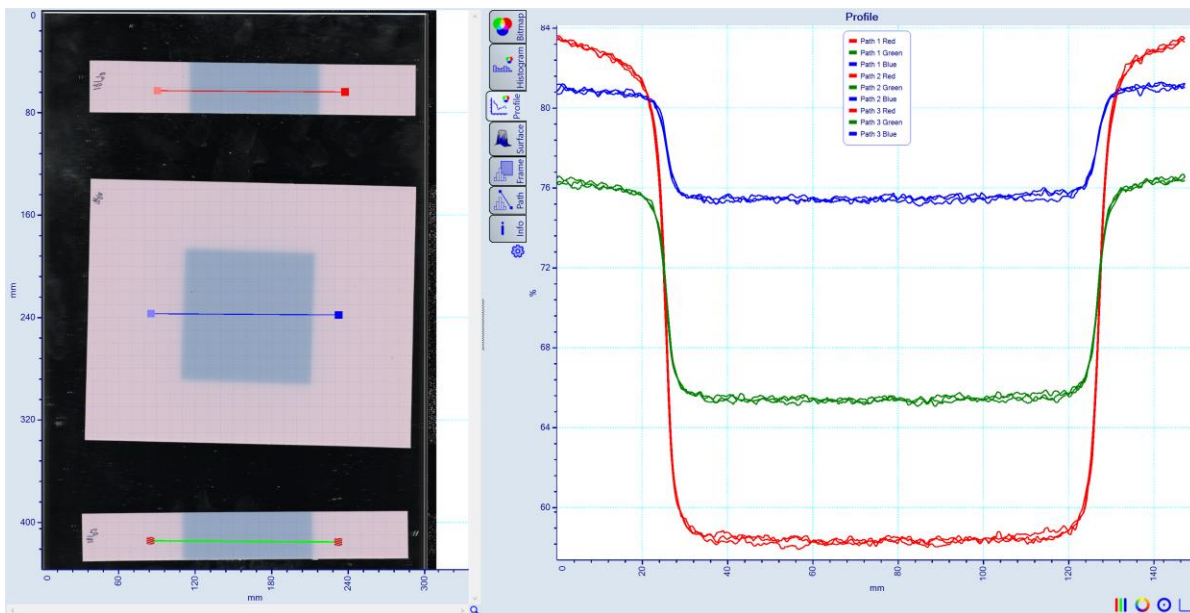

Figure 9: RGB profiles of OC-1 film with 10 x 10 cm flat field exposures at 10 Gy without any lateral artifact.
- Figure 9 shows the RGB profiles of three pieces of OC-1 film exposed together to a 10 x 10 cm flat field at 10 Gy. All three profiles are free of any lateral artifact. Furthermore the profiles taken at several scan locations are matching perfectly.